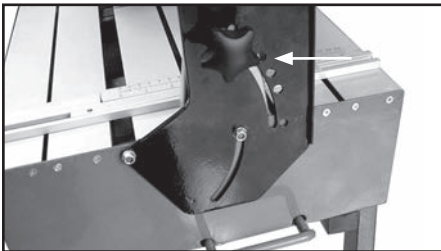

FIGURE 13
1. Loosen the two knobs at either end of the bridge (Fig 13).